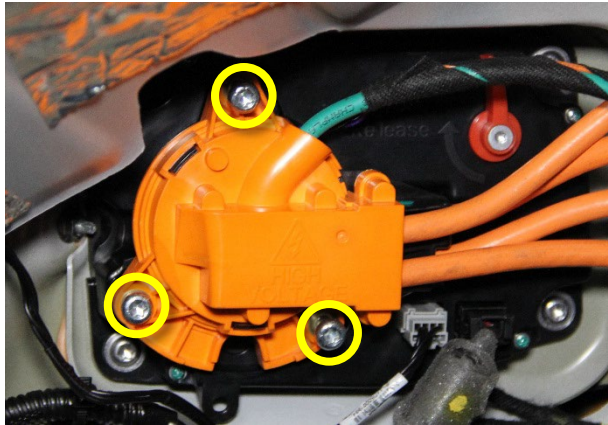

Figure 46
24. Attach the cable connector to the charge port with 3 bolts (torque 5 Nm) (Figure 46).